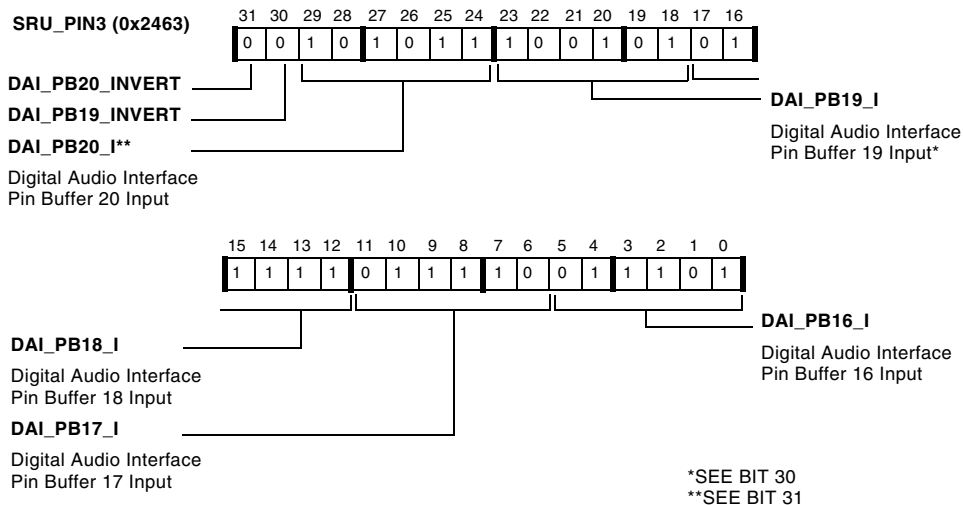

Figure A-49. SRU\_PIN3 Register
- SRU\_PIN3, described in Figure A-49